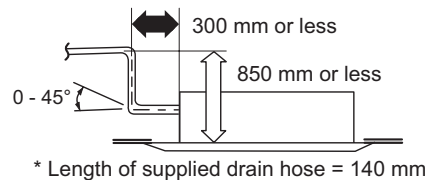

Fig. 2-60
- In cases where it is necessary to raise the height of the drain piping, the drain piping can be raised to a maximum height of 850 mm above the bottom surface of the ceiling. Under no conditions attempt to raise it higher than 850 mm above the bottom surface of the ceiling. Doing so will result in water leakage. (Fig. 2-60)